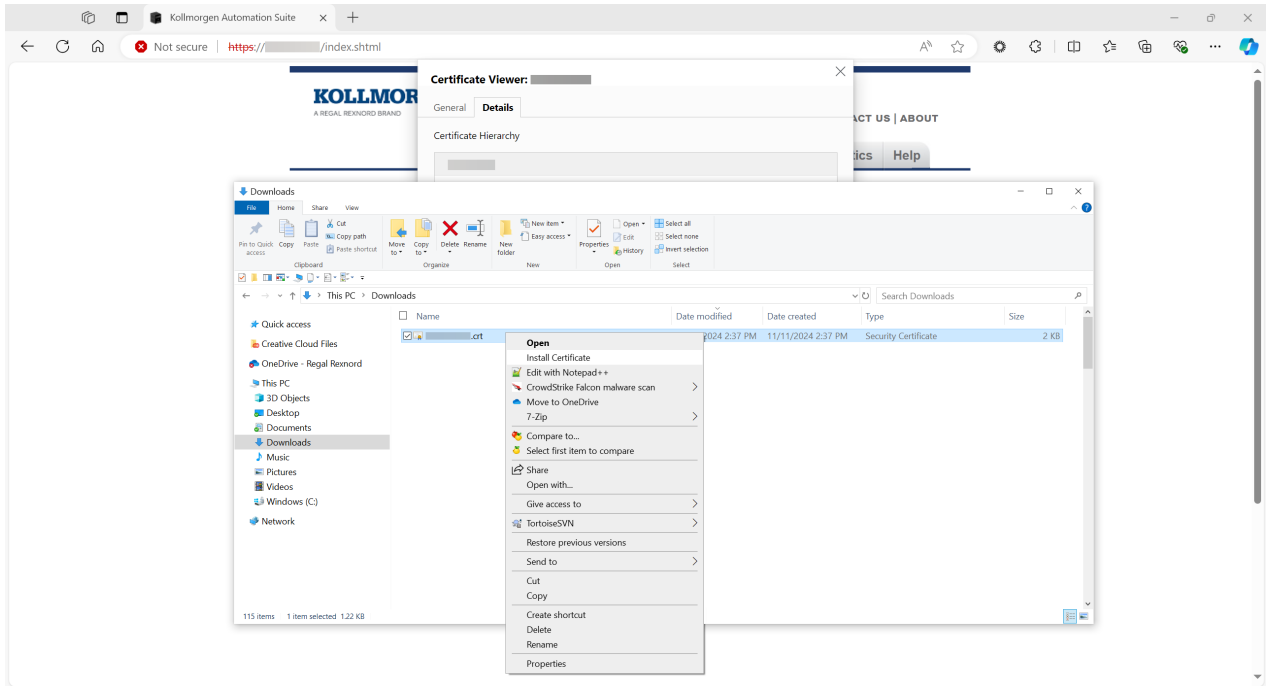

Figure 9-33: Selected .crt file and the **Install Certificate** option
22. Right-click the file and click the **Install Certificate** option. (Figure 9-33)